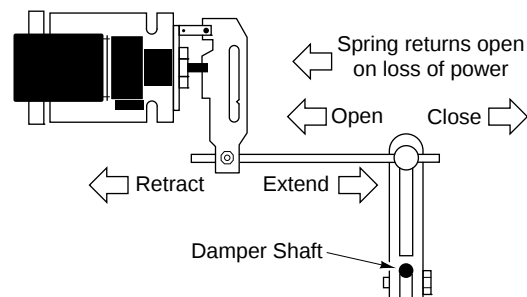
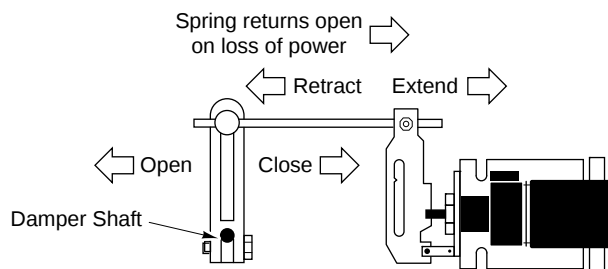

Figure-14 Dampers Open When Actuator Retracts (Spring-Returns Open on Power Loss).
Figure-15 Dampers Open When Actuator Extends (Spring-Returns Closed on Power Loss).
- Determine, from the system requirements, if the damper should spring-return to the open position (Figure-14) or closed position (Figure-15) whenever power is lost to the actuator. An actuator is normally linked so as to retract (spring-return) to the damper's fully open position (heat position).